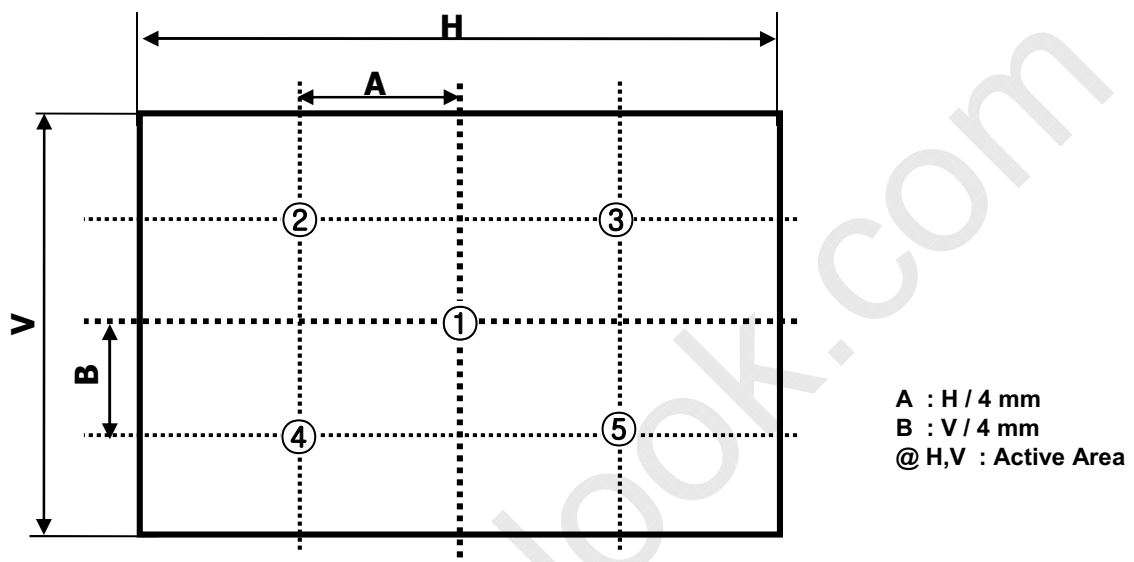

FIG. 2 5 Points for Luminance Measure
n = the Position number(1, 2, 3, 4, 5). For more information, see FIG. 2.
2. Surface luminance are determined after the unit has been 'ON' and 1 Hour after lighting the backlight in a dark environment at 25±2°C. Surface luminance is the luminance value at center 1-point across the LCD surface 50cm from the surface with all pixels displaying white. For more information see the FIG. 2.
For more information, see the FIG. 2.